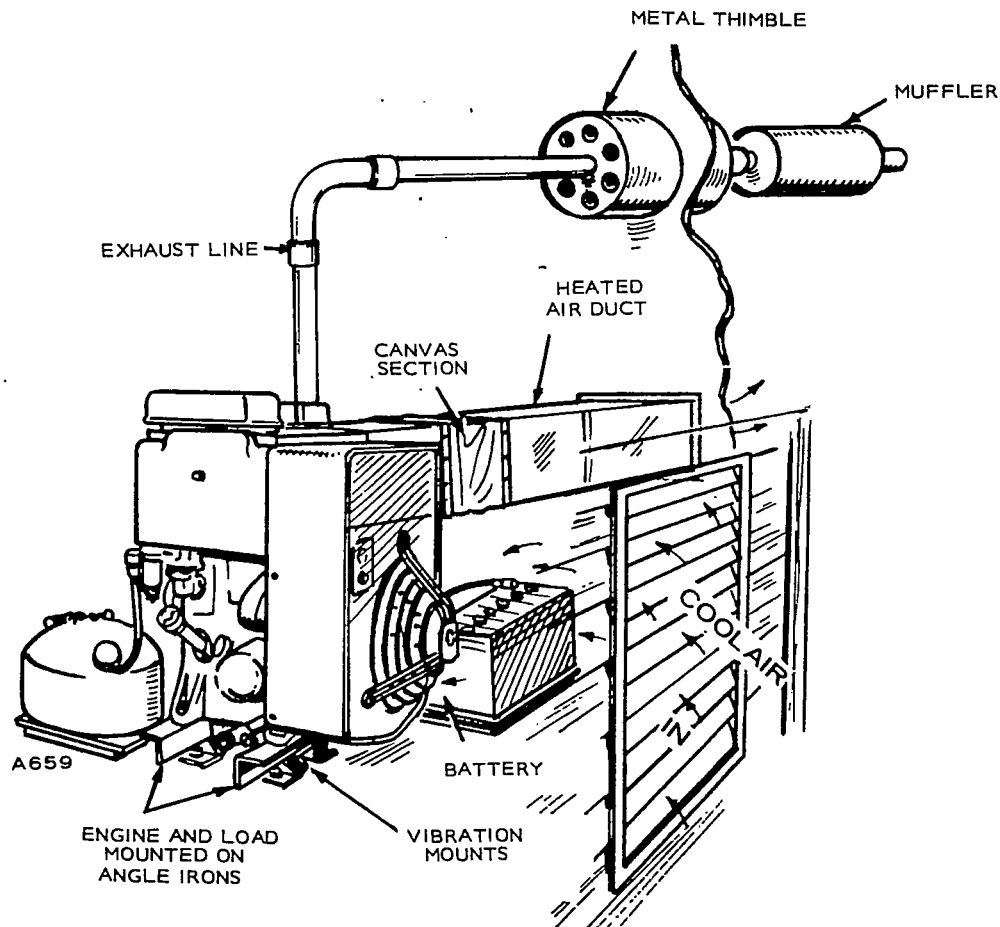

FIGURE 2. STATIONARY INSTALLATION
When air ducts are used between the engine and outlet vent, use a section of canvas to restrict vibration, as shown in Figure 2.
5. Protect walls and partitions through which exhaust pipes pass with a metal thimble, Figure 2.